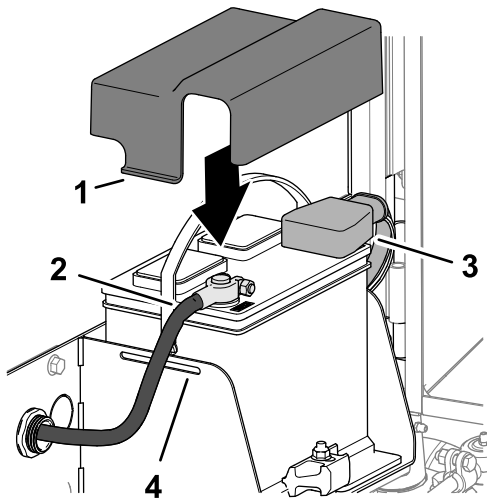

Figure 86
1. Install the positive battery cable (red) to the positive (+) battery post (Figure 86).